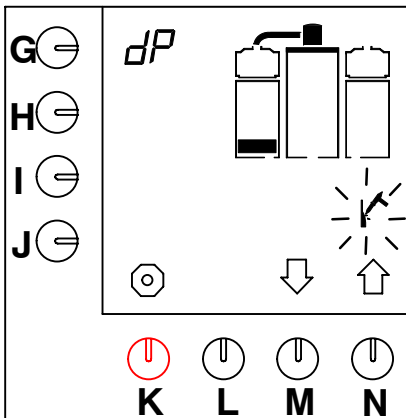

Fig. 20 First level descaling programme coffee-making system
- The first level block appears on the display and the hammer symbol flashes (fig. 20).